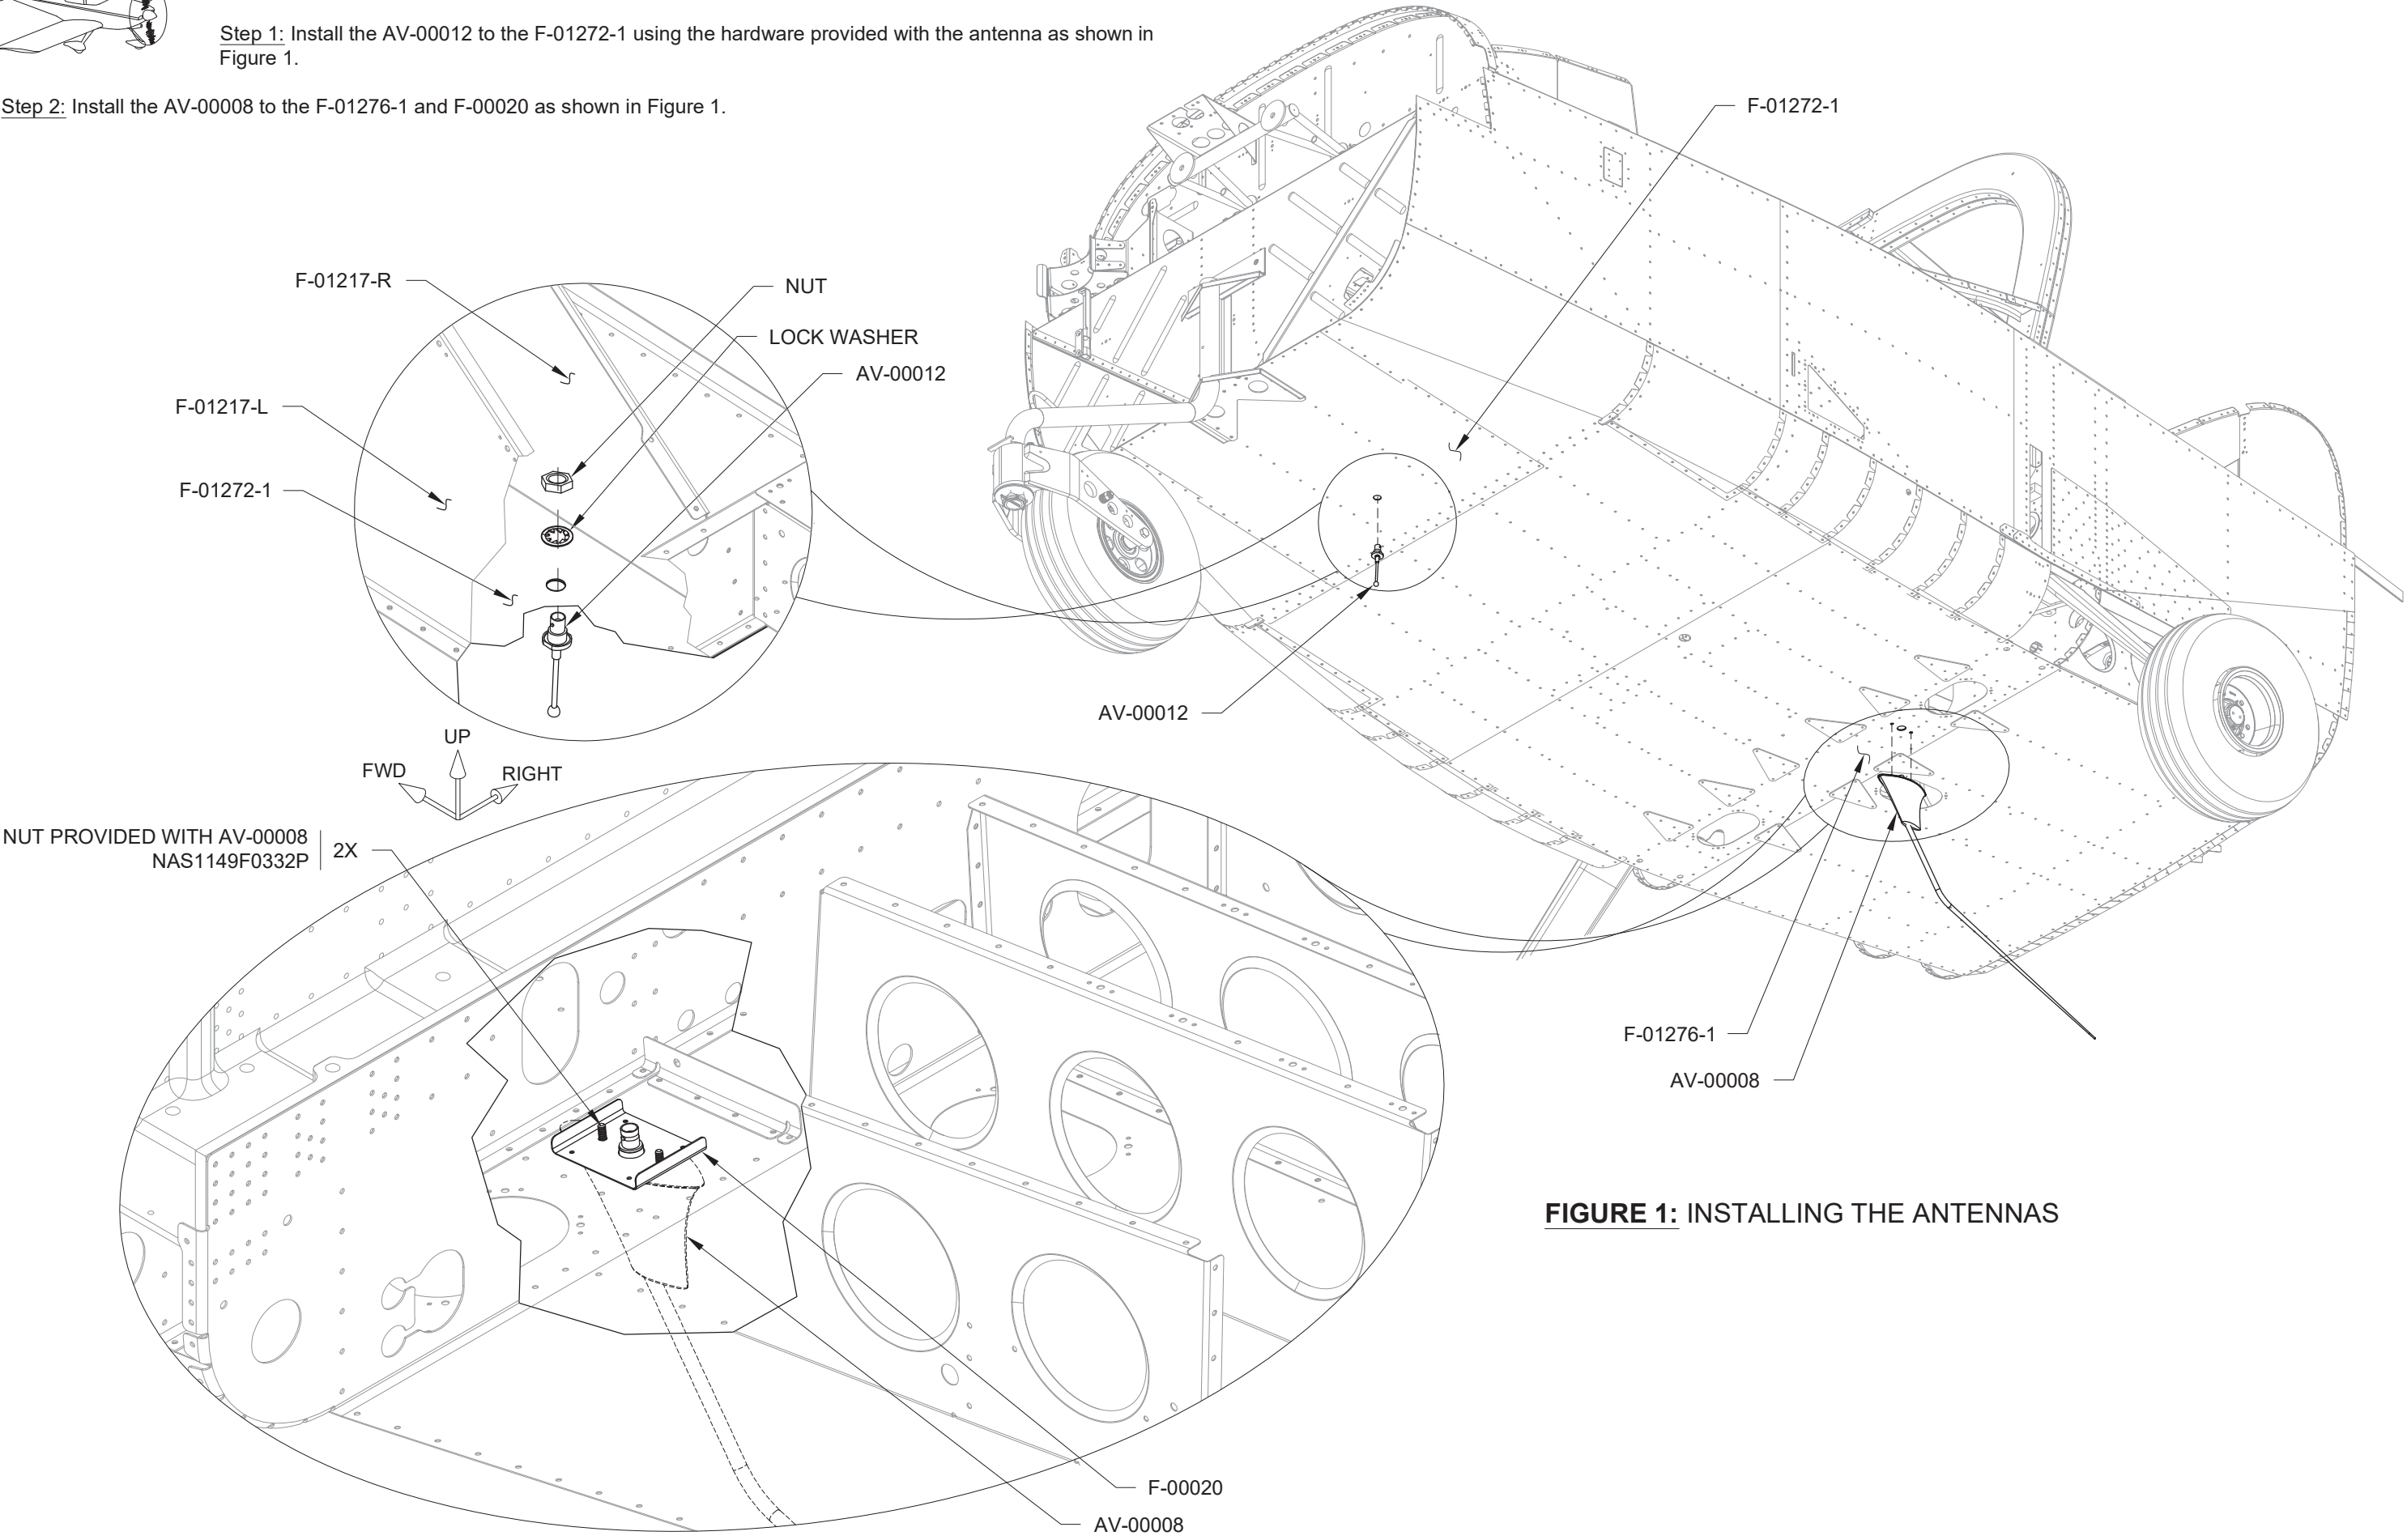

FIGURE 1: INSTALLING THE ANTENNAS
Step 2: Install the AV-00008 to the F-01276-1 and F-00020 as shown in Figure 1.